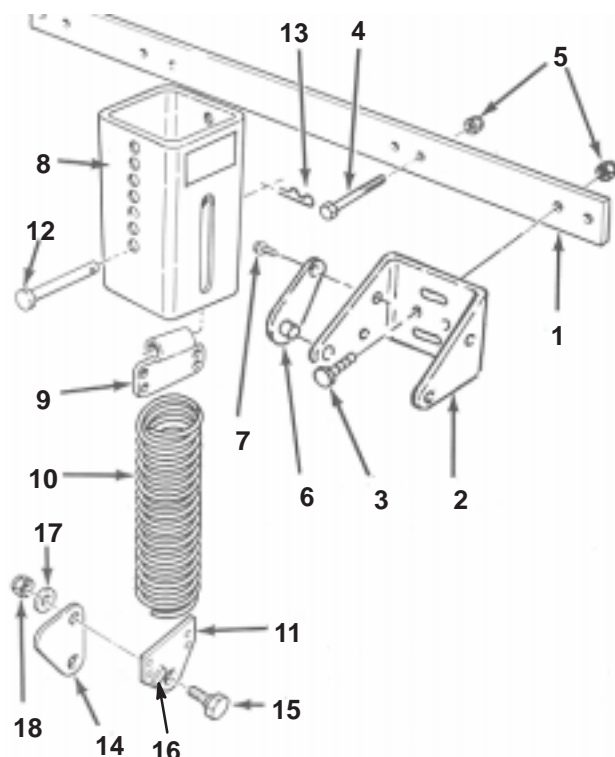

Figure 9
1. On 217-D and 220 models, install the adapter bar to the front of the front of the traction unit frame (optional—not included with frame with 4 flange head capscrews (3/8 x 2-1/4 in.) and locknuts (Fig. 9).
- At each bracket, align the slotted holes in the spring cover (slot toward the bottom) with the mounting bracket holes. Insert lock pin assemblies into the bracket holes and secure to the bracket with self-tapping screws (Fig. 9). Torque the screws to 20 ft.-lb. (27 N·m)
- Thread the top extension spring coils into the top spring end holes and the bottom extension spring coils into the bottom spring end holes (Fig. 9).